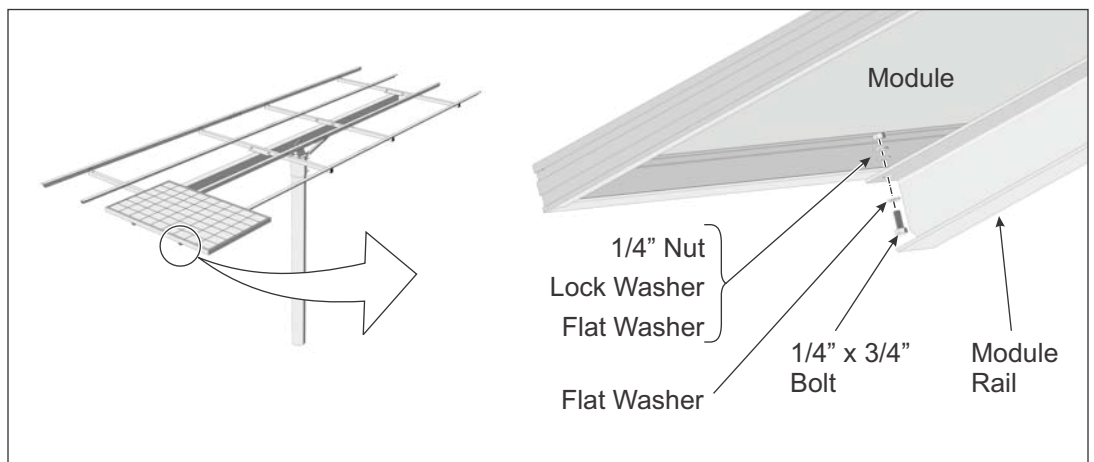

Figure 5-1: Installing PV Modules to Module Rails
- A. Place a southern most PV Module on the Module Rails. Align the mounting holes and secure with 1/4" x 3/4" bolts and hardware; each Module has four attachment points. Finger-tighten for now. (See Figure 5-1)